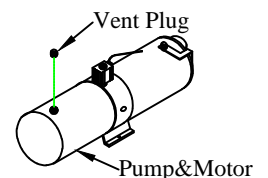

Figure 20: Vent plug.
- Unscrew** the solid plastic plug from the pump reservoir and **Install** the vent plug provided (Figure 20).